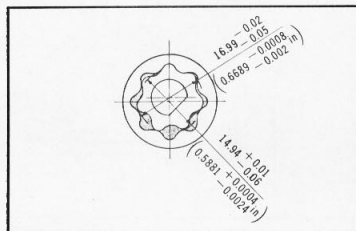

Figure 3-12. Oil pump backlash
- (3) Rotor tip clearance (Fig. 3-12)
- (1) Fit the inner rotor to the outer rotor and then install the pump assembly to the right crankcase. Install the oil pump assembly to the right crankcase. (Fig. 3-12)
- (2) Install the clutch assembly and the right crankcase cover.